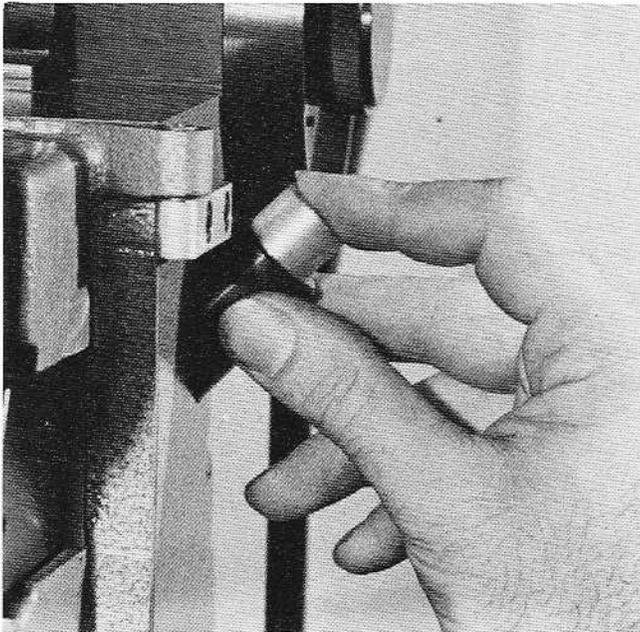

Figure 11. Notching the Film
**5.8 NOTCHING THE FILM.** A plunger located on the right side of the camera notches the edge of the film to locate the start and end of a run (see Figure 11). The notch will be located approximately  $2\frac{1}{2}$  slide frames ahead of the frame in the aperture. For locating multiple 36 exposure lengths (slide format), advance five frames after the last exposed frame before operating the film notcher. The notch will be located in the center of the five frames, leaving  $2\frac{1}{2}$  frames of leader on each side of the notch. Film chips from the notcher will accumulate in a receptacle in the film movement and should be removed periodically.